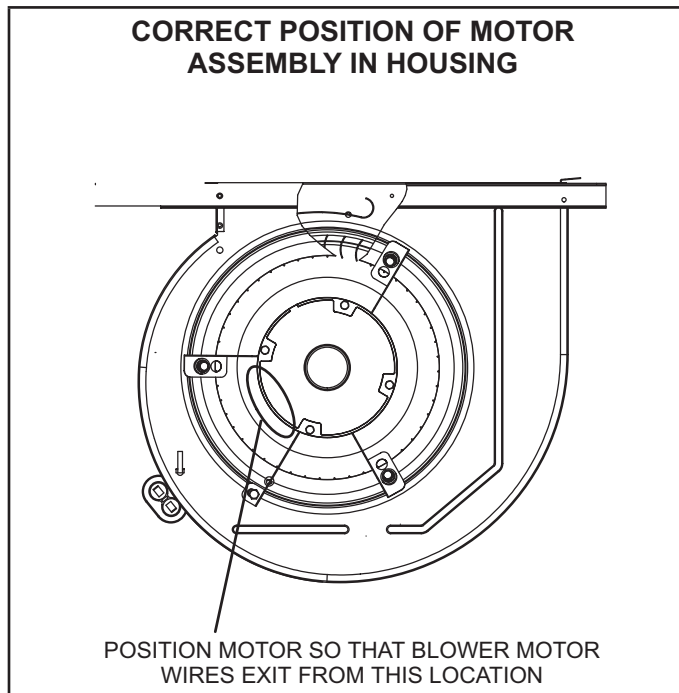
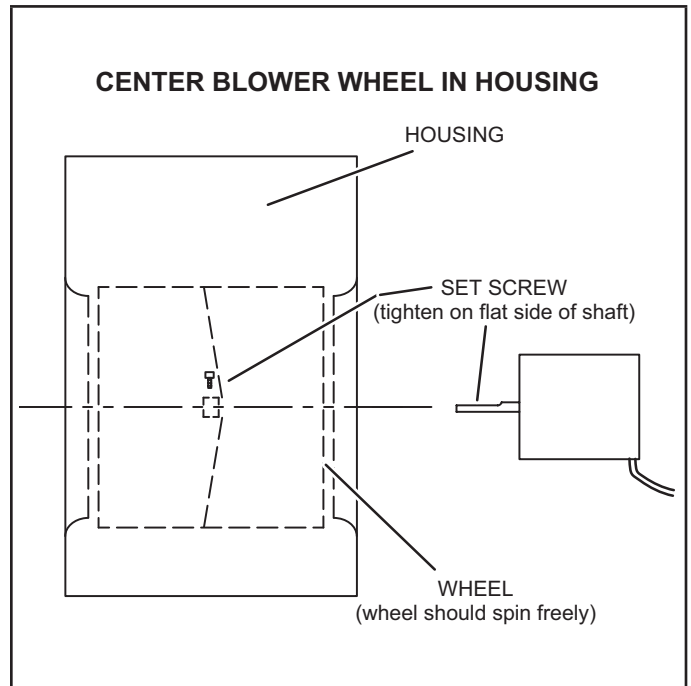

FIGURE 2
FIGURE 3
- 12 - Properly position blower motor assembly in the housing. See figure 2 for proper motor orientation. Center the blower wheel in the housing and tighten the set screw. See figure 3.